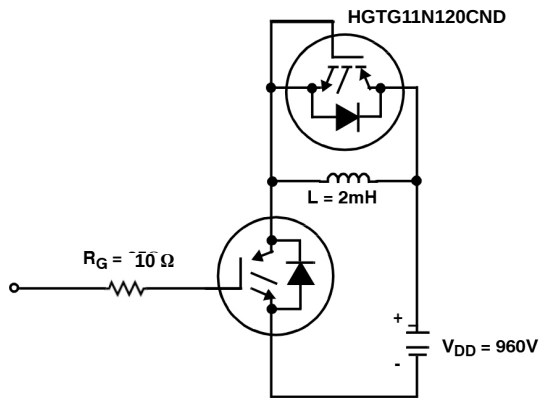

Figure 20. Inductive Switching Test Circuit
| Current Turn-On Delay Time              | t d(ON) I  | IGBT and Diode at T J = 25 °C, I CE = 11 A, V CE = 960 V, V GE = 15 V, R G = 10 Ω, L = 2 mH, Test Circuit (Figure 20)  | –    | 23   | 26   | ns    |
| Current Turn-On Delay Time              | t d(ON) I  | IGBT and Diode at T J = 150 °C, I CE = 11 A, V CE = 960 V, V GE = 15 V, R G = 10 Ω, L = 2 mH, Test Circuit (Figure 20) | –    | 21   | 24   | ns    |